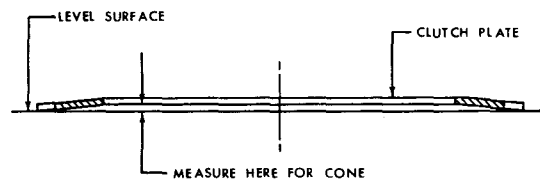

Fig. 4-6. Method for determining cone of clutch plate
(1) Inspect the friction-faced plates for burs, imbedded metal particles, severely pitted faces, excessive wear, cone, cracks, distortion, and damaged spline teeth. Remove burs, using a soft honing stone. Replace plates which have other defects.
(2) Inspect steel plates for burs, scoring, excessive wear, cone, distortions, imbedded metal, galling, cracks, breaks, and damaged tangs. Remove burs and minor surface irregularities, using a soft honing stone. Replace plates which have other defects.
(3) The amount of cone is determined by measuring the distance between the inside diameter of the plate and a level surface (fig. 4-6). When assembling a clutch pack, soak clutch plates in type C 2 oil for at least 2 minutes and make sure that each plate is installed so that the cone is in the same direction as the adjacent plates. (Refer to wear limits chart in Section 8 for maximum allowable cone.)